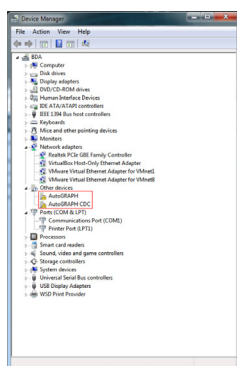

Fig.1.
1. Connect the tracker to your PC using the USB cable. The system will automatically search for new equipment (Fig.1). For proper operation, it is necessary to install drivers for both devices: AutoGRAPH and AutoGRAPH CDC device.